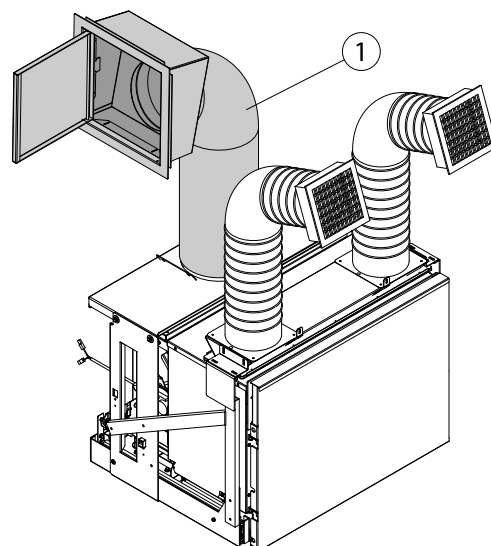

fig. 6.4.1
- A) Loading system with metal pipe and loading door "1" (fig. 6.4.1)